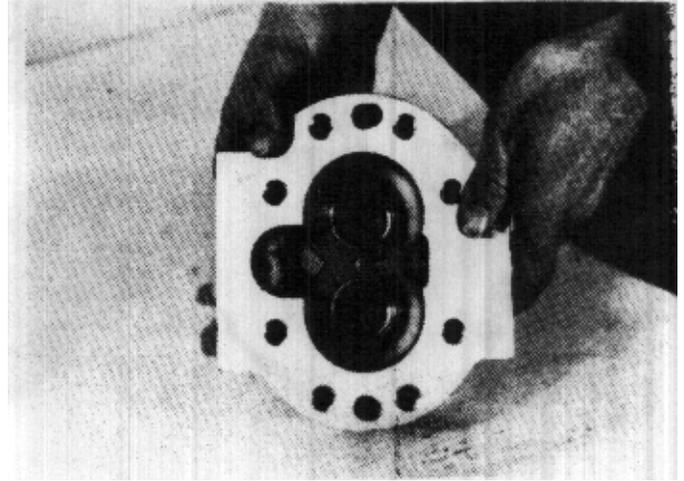

FIGURE 54
24. Install back-up ring (14), o-ring (12), and retainer ring (13). (Figure 54)